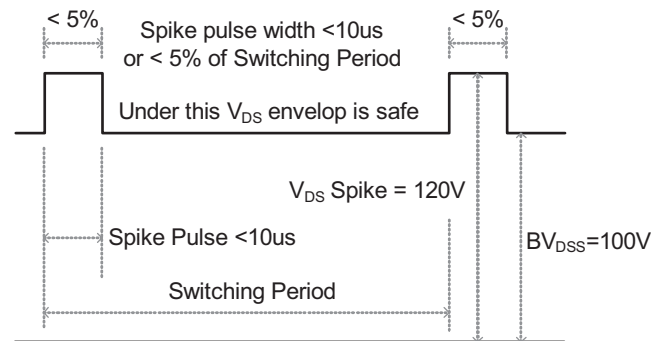

Figure 1. V_{DS} Spike Duty Cycle
5. Refer to Figure 1 below for I2C Timing Definitions.